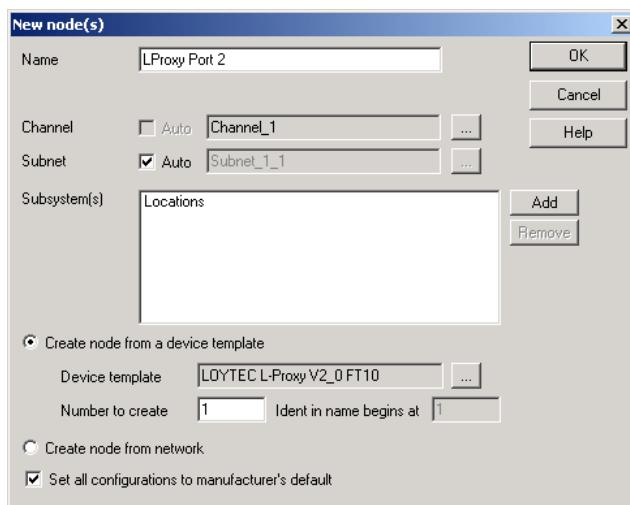

Figure 69 Adding a new L-Proxy port (Port 2) to the network.
3. In the dialog from Figure 69 specify a device name for the new device.
2. Select **Geräte** and choose **Neues Gerät**. The Dialog in Figure 69 is shown.